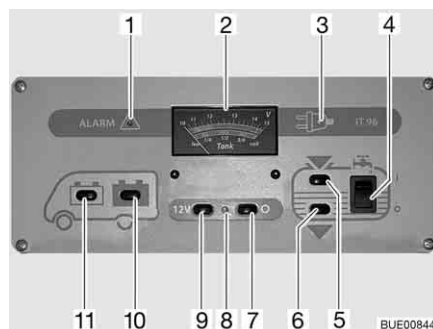

Fig. 129 Panel IT 96-2
The 12 V main switch (Fig. 129,7 and 9) switches the panel and the 12 V power supply to the living area on and off.
*Switching on:* ■ Press switch (Fig. 129,9) "12 V": The 12 V living area power supply is switched on. The indicator lamp (Fig. 129,8) lights up green.
*Switching off:* ■ Press switch (Fig. 129,7) "O": The 12 V living area power supply is switched off. The indicator lamp (Fig. 129,8) goes out.
With the V/tank gauge (Fig. 129,2), note the top scale. The gauge automatically lights up as soon as a switch is pressed.
- Press switch (Fig. 129,11) "": The battery voltage of the starter battery is displayed.
- Press switch (Fig. 129,10) "": The battery voltage of the living area battery is displayed.
The V/tank gauge is for the indication of the quantity of water or waste water. With the V/tank gauge (Fig. 129,2), use the bottom scale. The gauge automatically lights up as soon as a switch is pressed.
- Press switch (Fig. 129,5) "": The volume of water is displayed.
- Press switch (Fig. 129,6) "": The volume of waste water is displayed.
- Press the upper part of the rocker switch (Fig. 129,4) "I": The water supply is ON.
- Press the lower part of the rocker switch (Fig. 129,4) "O": The water supply is OFF.
The red "ALARM" warning light (Fig. 129,1) flashes as soon as the voltage of the living area battery falls below 11 V (measured under operation) and there is a risk of a total discharge.
The 12 V indicator lamp (Fig. 129,8) illuminates whenever the 12 V main switch (Fig. 129,9) is switched on.
The yellow 230 V indicator lamp (Fig. 129,3) illuminates whenever line voltage is available at the transformer/rectifier input.